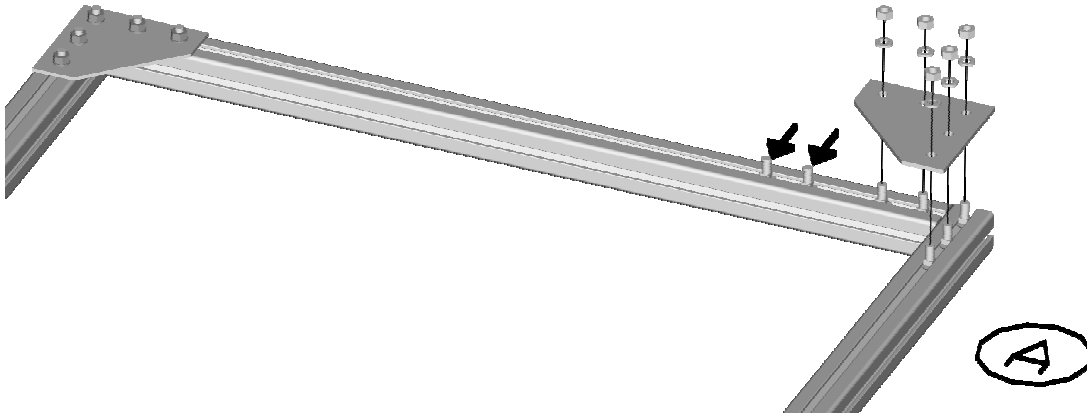

Figure 4-A
4. Follow the same procedure for the other top corner. Insert 2 extra bolts in framing member B, which will be used for the attachment of cross member "C" (see Figure 4-A).